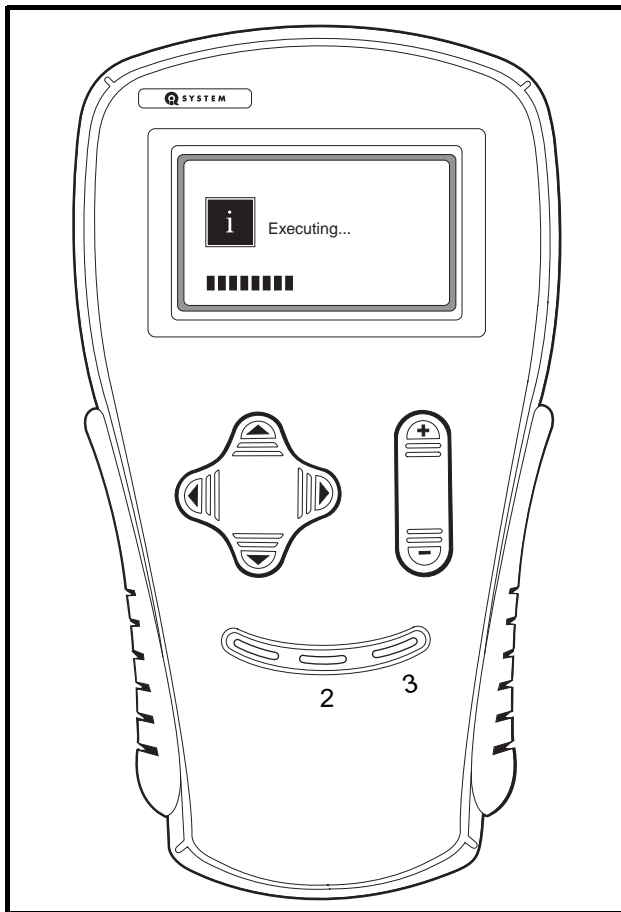
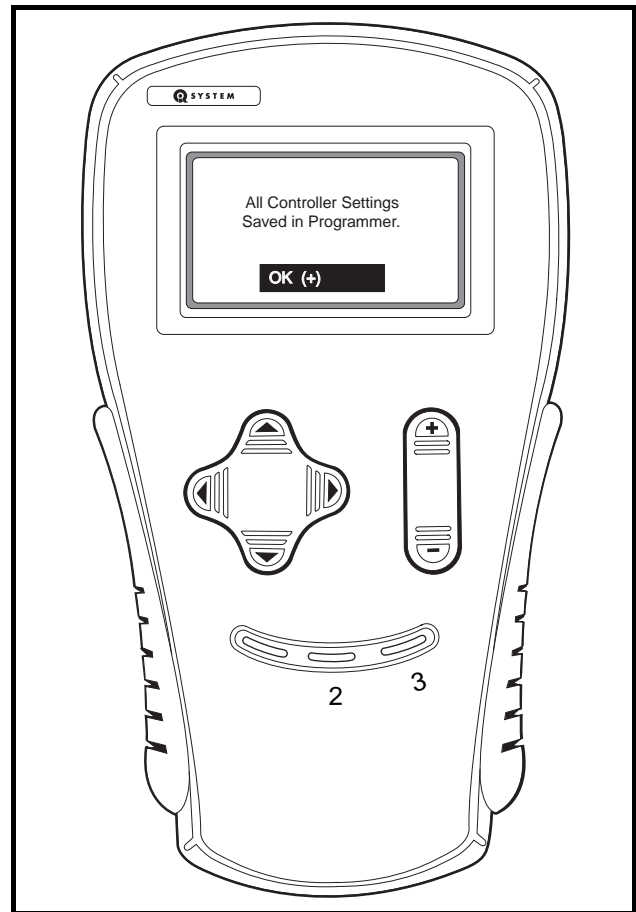

Figure 12-3 Handset Executing
Figure 12-4 Confirmation Message
- 3.4. Align the keyed portion of the plug with the IQDM jack and connect the plug to the jack (**Figure 12-3** or **Figure 12-4**).
8. The handset will display an “executing...” message for the next few seconds while the controller settings are being stored in the handset’s memory (**Figure 12-3**).
9. When the handset is finished recording the speed controller settings, a confirmation message is displayed (**Figure 12-4**).
- 4.4. Align the keyed portion of the plug with the IQDM jack and connect the plug to the jack (**Figure 12-3** or **Figure 12-4**).
9. The handset will display an “executing...” message for the next few seconds while the controller settings are being stored in the handset’s memory (**Figure 12-3**).
5. The handset will display an “executing...” message for the next few seconds while the controller settings are being stored in the handset’s memory (**Figure 12-3**).